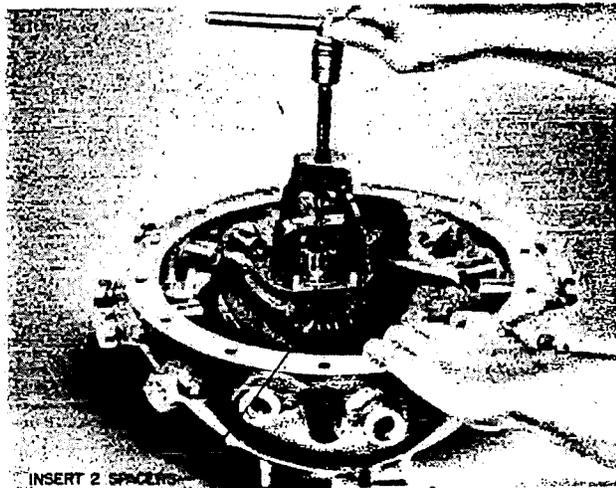

Figure 18 - Removing Cam Drive Pinion Shaft - Old Method
(7) After the puller and brace are in place put two (2) Spacers (Tool No. T-6035) in recess of cam drive gear, one over the other, between the gear and boss in case. Refer to Figures 18 and 18A.